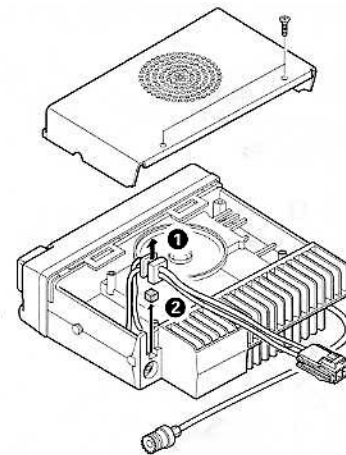
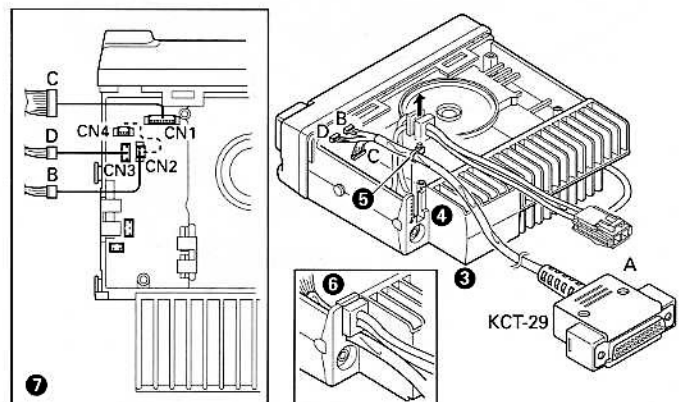

Fig. 5
Fig. 6
2. Lift the DC cord bushing (1) from the chassis.
3. Remove the pad as shown in Figure 5 (2).
4. Insert the KCT-29 cable (3) into the chassis (4). The wire harness band (5) must be inside the chassis.
5. Replace the DC cord bushing (6).
6. Connect the KCT-29 to the TX-RX unit (A/2) as shown in Figure 6 (7).